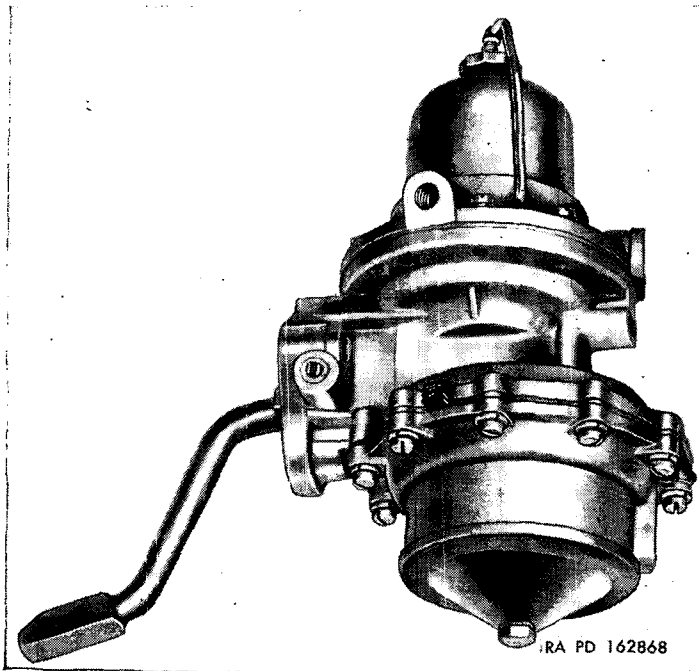

Figure 42. Fuel and vacuum pump, series AX.
- (1) Mark edges of fuel cover and body diaphragm flanges of series AX fuel and vacuum pump (fig. 42) with a file. Mark at heat shield stud, if used. The parts may then be assembled in the same relative position. Note that the fuel diaphragm flange is symmetrical, and the vacuum diaphragm flange has bulges where the screw holes occur.
- (2) Remove cover screws and lock washers. Also remove heat shield stud, if used. Separate cover from body by jarring cover loose with a light plastic hammer.